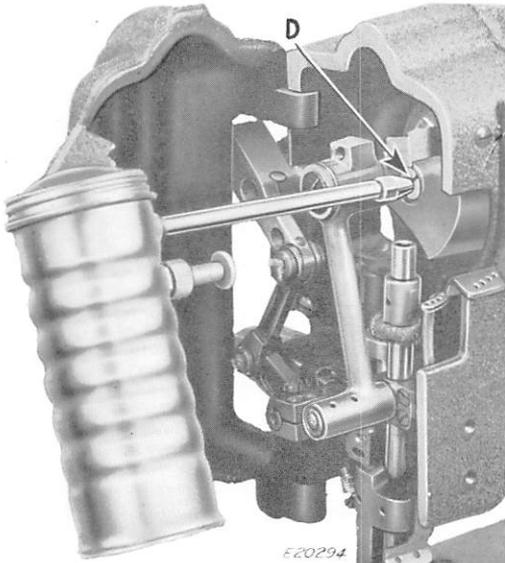

Fig. 6
USE ONLY THE PRESSURE OIL CAN NO. 228491 FURNISHED WITH THE MACHINE, AS SHOWN IN FIGS. 6 AND 8.
1. To fill arm shaft oil reservoir, insert spout of pressure oil can in hole **D**, Fig. 6 and inject 6 shots of oil into shaft.
Fill arm shaft oil reservoir **D**, **Fig. 6** (approximately 6 shots of oil).